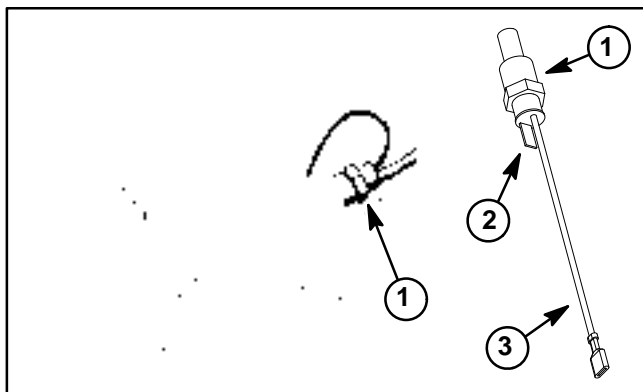

Figure 71
On Groundsmaster 360 machines equipped with an operator cab, the dual temperature switch includes two (2) normally open circuits used to monitor engine coolant temperature. These switch circuits are the high temperature warning circuit and the high temperature shutdown circuit. The dual temperature switch is attached to the engine water pump housing (Fig. 71).